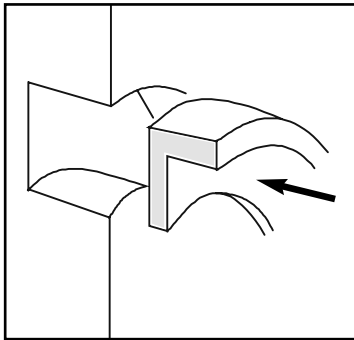

Figure 15 Cup Rubber Insertion in Rotor
- To fit seal seat to rotor (56 & 57), first insert cup rubber (83) into the rotor (do not lubricate), ensure alignment with drive pin. (see figure 15). If PTFE trim is fitted, insert the rubber washer first followed by the PTFE sleeve. Note that the sleeve is slightly tapered and will be easier to fit if the narrow side is inserted first. Then lubricate outside diameter of seal seat. (do not use mineral-oil based lubricants on EPDM joints) Align drive pin with one of the three slots in seal seat. Engage the leading edge of the seal seat into the cup rubber or PTFE sleeve. Push down evenly until seal seat rests squarely on bottom of seal bore in rotor. Do not damage seat face. When correctly fitted,
- To re-assemble, place O-ring (93) in double seal housing (95), lubricate outside of static seat with a suitable lubricant compatible with the barrier fluid. Align slots in seal face with dogs of drive plate (81) in seal housing (see figure 15) and push seat fully in. The seat should slide freely against the plate (81) and wave spring (82).
- If fitting double seals to a pump for the first time, e.g. retrofitting a single seal pump, gently tap or press the support ring (92) square up against the shoulder on each shaft.
- Fit O-ring (93) to rotary seal seat (92). Gently push seal seat squarely on to shaft, aligning hole in rear of seal face with pin on the support ring.